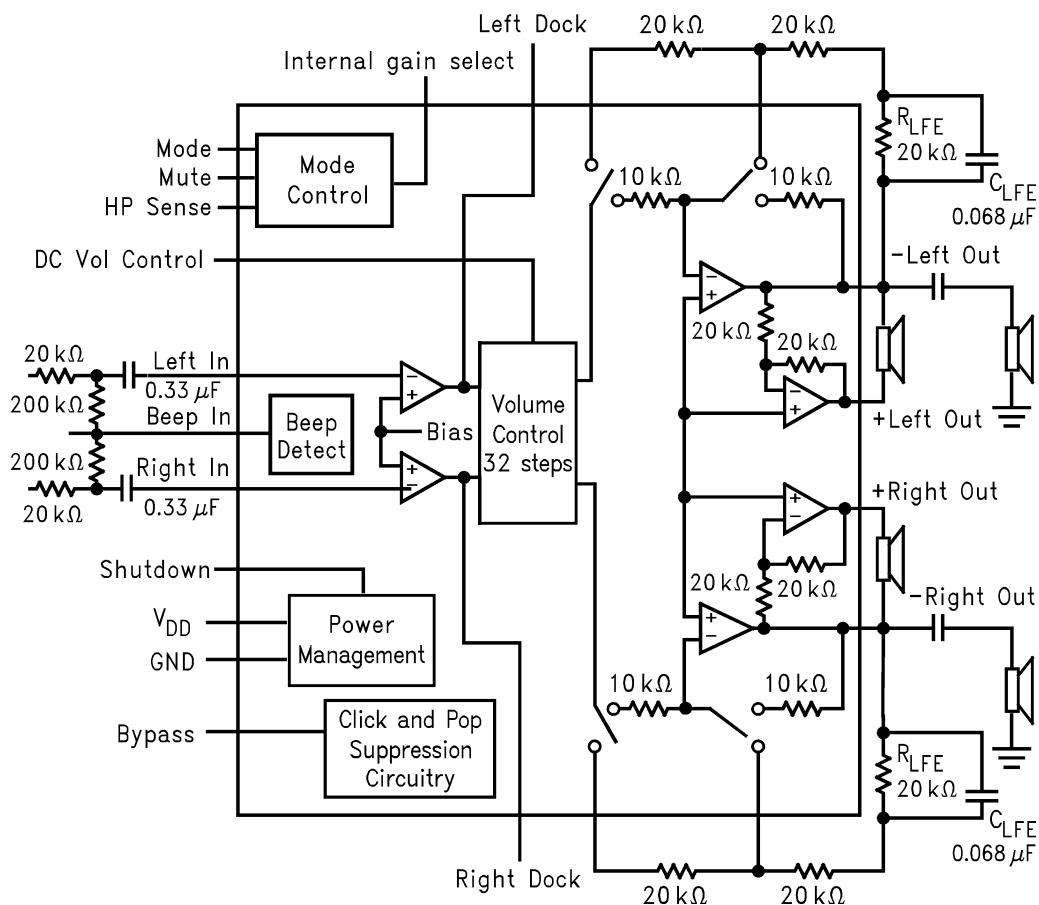

Figure 3. LM4835 Block Diagram
- (1) All voltages are measured with respect to the ground pins, unless otherwise specified. All specifications are tested using the typical application as shown in Figure 3.
- (2) Absolute Maximum Ratings indicate limits beyond which damage to the device may occur. Operating Ratings indicate conditions for which the device is functional, but do not ensure specific performance limits. Electrical Characteristics state DC and AC electrical specifications under particular test conditions which ensure specific performance limits. This assumes that the device is within the Operating Ratings. Specifications are not ensured for parameters where no limit is given, however, the typical value is a good indication of device performance.
- (3) Typicals are measured at $25^\circ C$ and represent the parametric norm.
- (4) Datasheet min/max specification limits are ensured by design, test, or statistical analysis.
- (3) Typicals are measured at 25°C and represent the parametric norm.
- (5) When driving 3Ω loads and operating on a 5V supply, the LM4835MTE must be mounted to the circuit board and forced-air cooled.
- (6) When driving a 3Ω or 4Ω loads and operating on a 5V supply, the LM4835LQ must be mounted to the circuit board that has a minimum of 2.5in² of exposed, uninterrupted copper area connected to the WQFN package's exposed DAP.
- (7) When driving 4Ω loads and operating on a 5V supply, the LM4835MTE must be mounted to the circuit board.